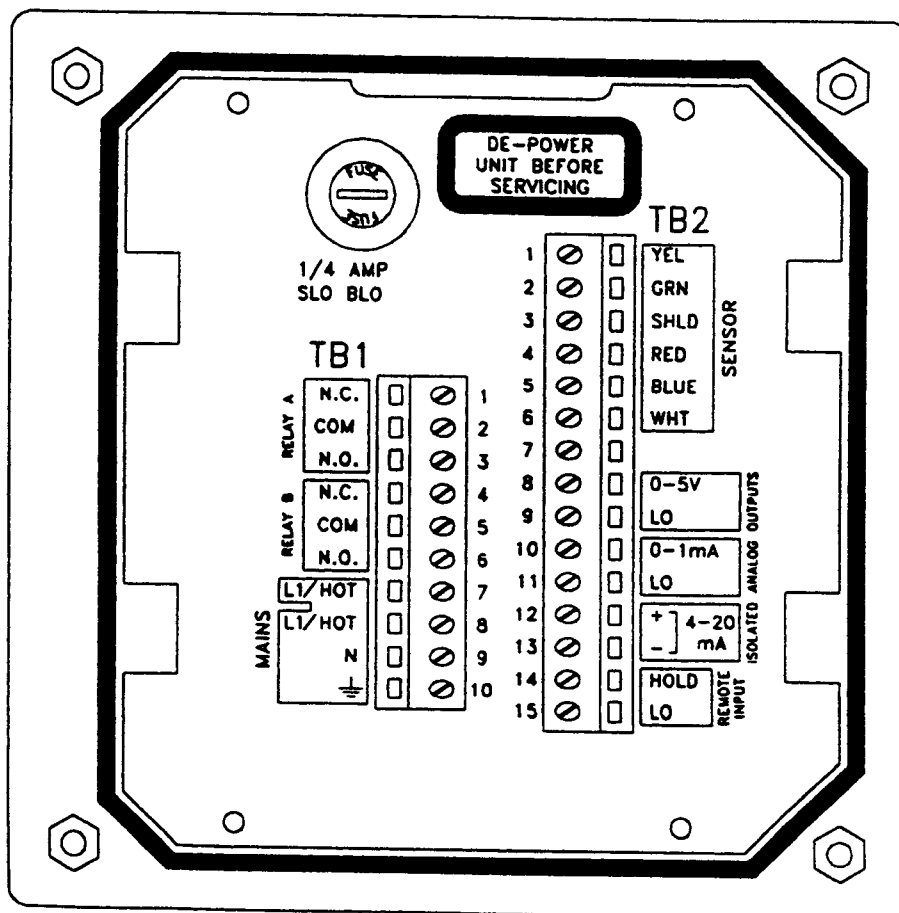
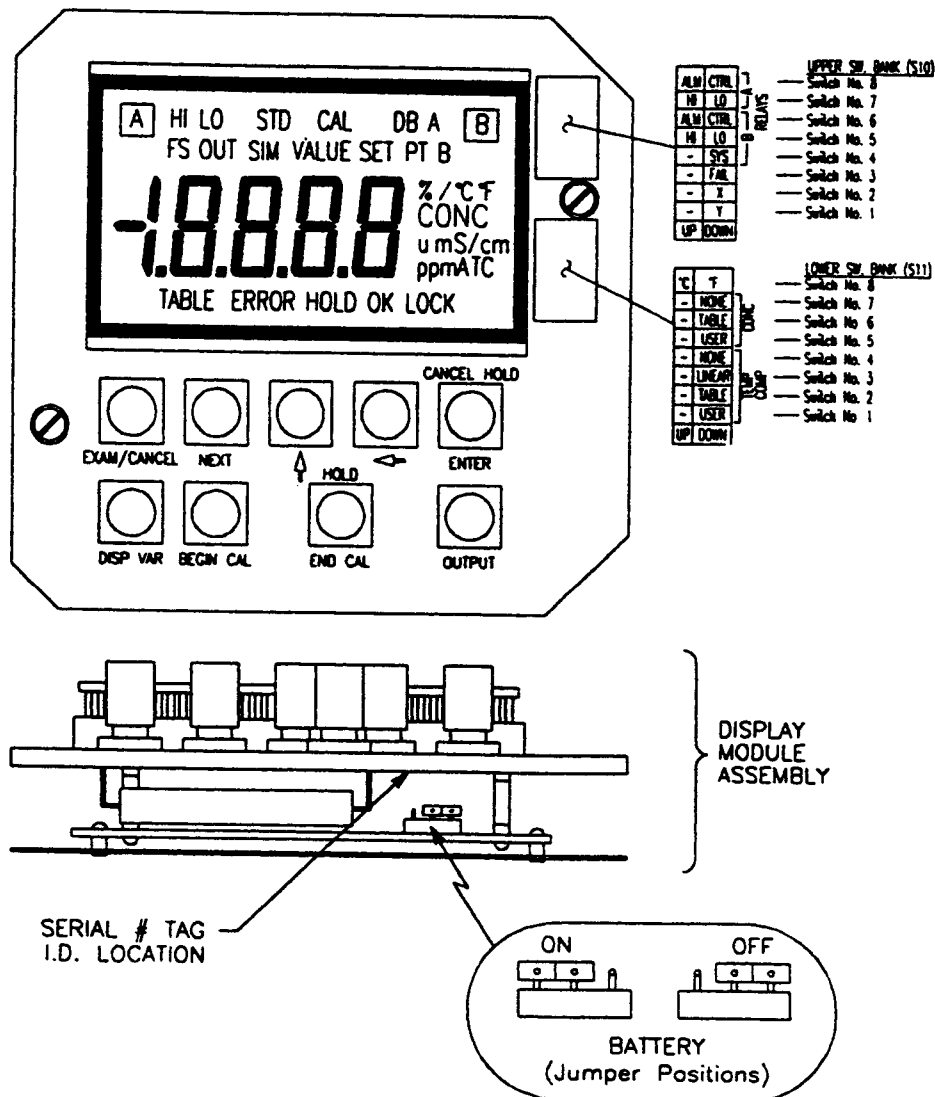

FIGURE 2-3 Electrical Hook-up Details
FIGURE 3-1 CDCN-672 LCD Board Assembly – Operating And Setup Controls
To access terminal strips for electrical connections, loosen four thumbscrews and open enclosure door. Carefully remove LCD board assembly (Figure 3-1 on page 20) by loosening the two captive fasteners. Figure 2-3 on the next page shows terminal designations for instrument hook-up.
Connect line power to MAINS (Power) Terminals 8, 9 and 10 on TB1. The L1 HOT Terminal 8 is fused (1/4 amp. slow-blow) to protect instrument circuits. (NEUT Terminal 9 is also fused on instruments equipped with the 230 VAC dual-fused option). Use wiring practices which conform to local codes. Use only the standard three-wire connection. The ground symbol Terminal 10 grounds the instrument which is mandatory for safe operation. Refer to Figure 2-3.
Two eight-position DIP switches, used for selecting relay operating modes, solution concentration tables, temperature compensation method, etc., are located at the right edge of the LCD board assembly (Figure 3-1). These switches are accessed by opening the enclosure door which can be easily removed by unsnapping it from its hinge.
1. EXAM/CANCEL key (Figure 3-1)
2. NEXT key (Figure 3-1)
3. **↑** key (Figure 3-1)
4. **←** key (Figure 3-1)
5. **ENTER/CANCEL HOLD** key (Figure 3-1)
- B. Cancels output hold feature when pressed together with **OUTPUT** key (item 9).
6. **DISP VAR** key (Figure 3-1)
*NOTE: As a display check, all indicators light up (as shown in Figure 3-1) when 4-20 mA output variable is displayed and **←** key is pressed.*
7. BEGIN CAL key (Figure 3-1)
8. END CAL/HOLD recessed button (Figure 3-1)
- B. Activates output hold feature when pressed together with OUTPUT key (item 9).
9. OUTPUT key (Figure 3-1)
10. RELAY A ALM/CTRL switch (No. 8, Figure 3-1)
11. RELAY A HI/LO switch (No. 7, Figure 3-1)
12. RELAY B ALM/CTRL switch (No. 6, Figure 3-1)
13. RELAY B HI/LO switch (No. 5, Figure 3-1)
14. RELAY B SYS mode switch (No. 4, Figure 3-1)
15. FAIL SAFE switch (No. 3, Figure 3-1)
16. X and Y switches (No. 2 and No. 1 respectively, Figure 3-1)
17. °C/°F switch (No. 8, Figure 3-1)
18. CONC NONE switch (No. 7, Figure 3-1)
19. CONC TABLE switch (No. 6, Figure 3-1)
20. CONC USER switch (No. 5, Figure 3-1)
21. TEMP COMP NONE switch (No. 4, Figure 3-1)
22. TEMP COMP LINEAR switch (No. 3, Figure 3-1)
23. TEMP COMP TABLE switch (No. 2, Figure 3-1)
24. TEMP COMP USER switch (No. 1, Figure 3-1)